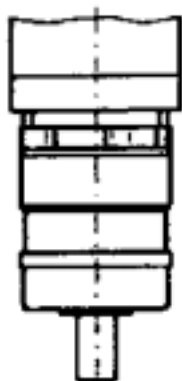

Fig. 4.2
*) Reduce the medium speed n_{1N} by 20% for the mounting position V1 (see Fig. 4.2).